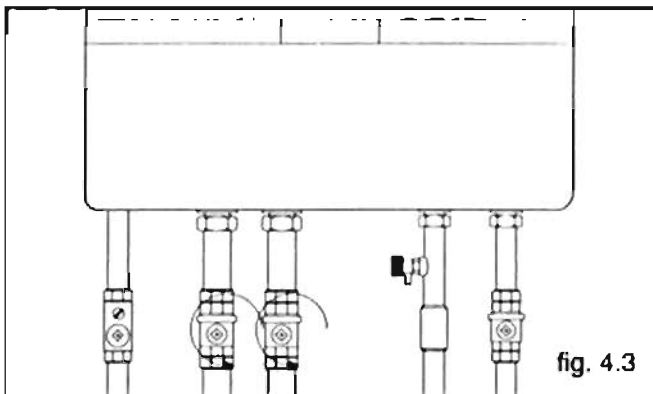

fig. 4.3
- 1 Open central heating flow and return cocks as indicated in fig. 4.3;